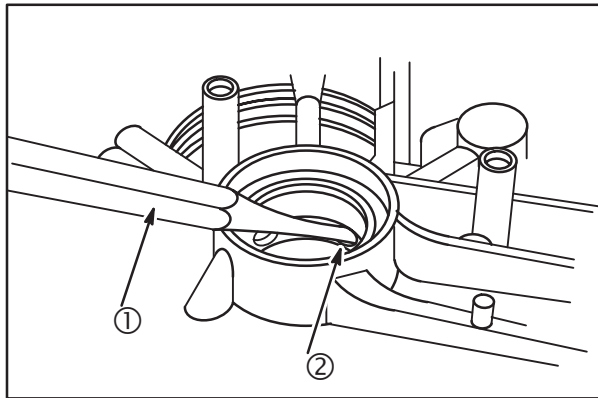

Fig. 10
1. Drive roll pin (2) into oil gallery using a 3/16" punch (1), Fig. 10.